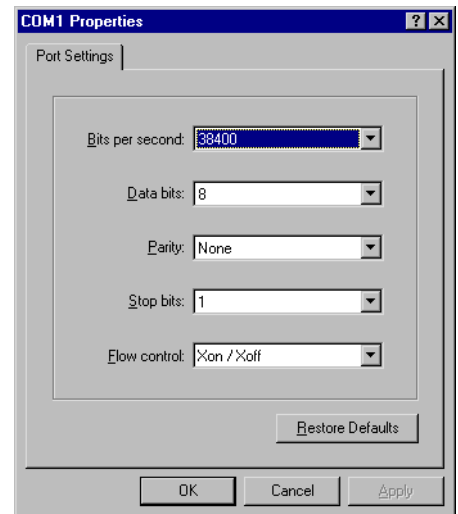

Figure 3-14 Terminal settings
- b. Set up the terminal emulator com port to use 38400 Baud, 8 data bits, no parity, 1 stop bit, and Xon/Xoff (see Figure 3-14).